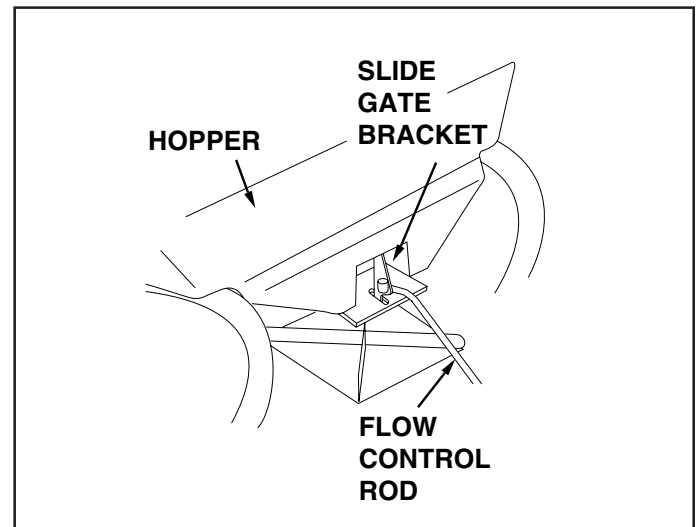

FIGURE 12
20. Hook free end of flow control rod through hole in slide gate bracket located near bottom of hopper. See figure 12.